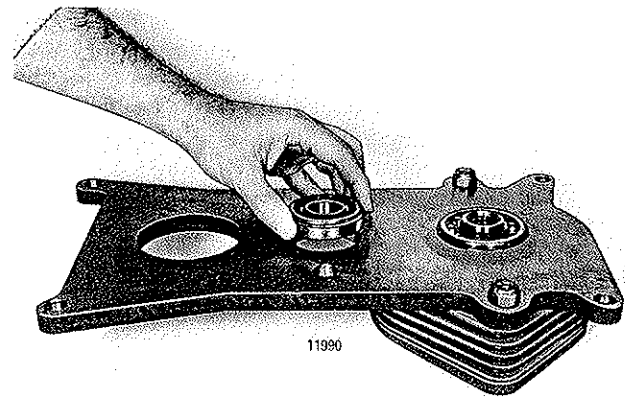

Figure 5-7. Installing Load Brake Shaft Ball Bearing in Gearcase Spider (Size 2 Hoist Shown).
- h. Reinstall spider and motor brake plates on gearcase. Make certain motor pinion shaft bearing on a size 2 hoist and load brake shaft bearing (Figure 5-7) are installed with the external retainer firmly seated against the inside (hoist side) of the spider and retainer side of bearing toward hoist. On a size 3 hoist the motor pinion shaft bearing is caged to the spider.